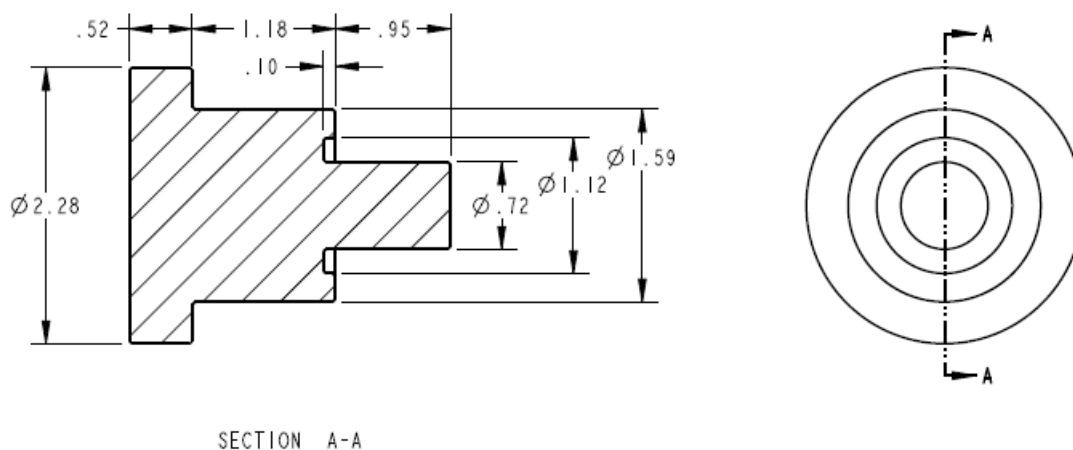

Figure 7.4.1
- Piston Assembly Tool- See Figure 7.4.1